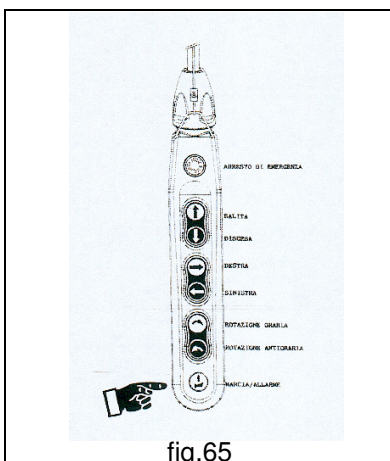

fig.65
- **ALWAYS** provide warning, using a siren if installed, to personnel working in proximity to the jib crane's handling area, of the start of load handling operations (fig.65).